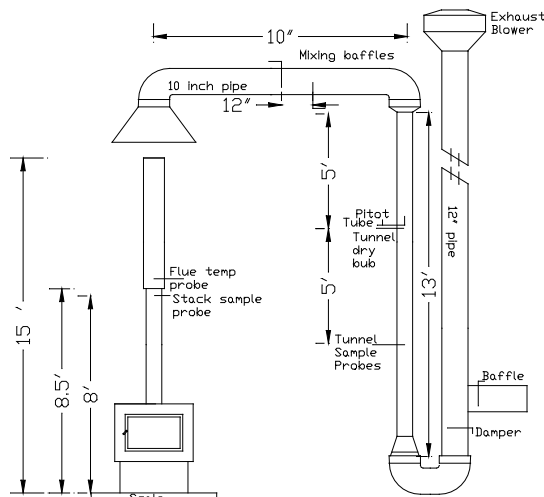

FIGURE 1
U.S. EPA has indicated that the depiction of the dilution tunnel (Figure 1) noted in all emissions test reports is showing an incorrect drawing. The current drawing is showing mixing baffles in the top portion of the tunnel, which was a requirement of EPA Method 5G.